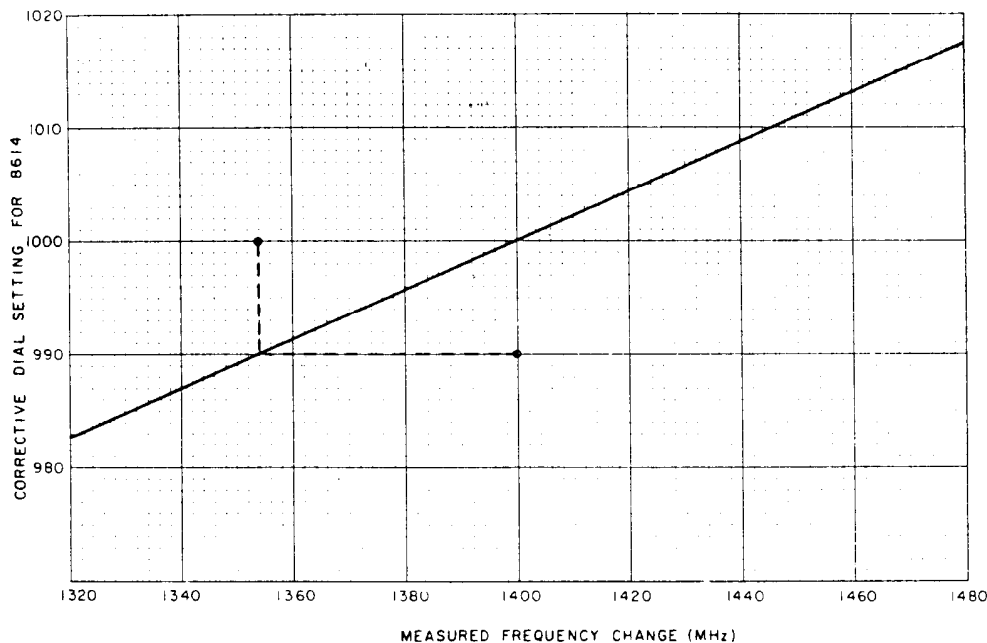
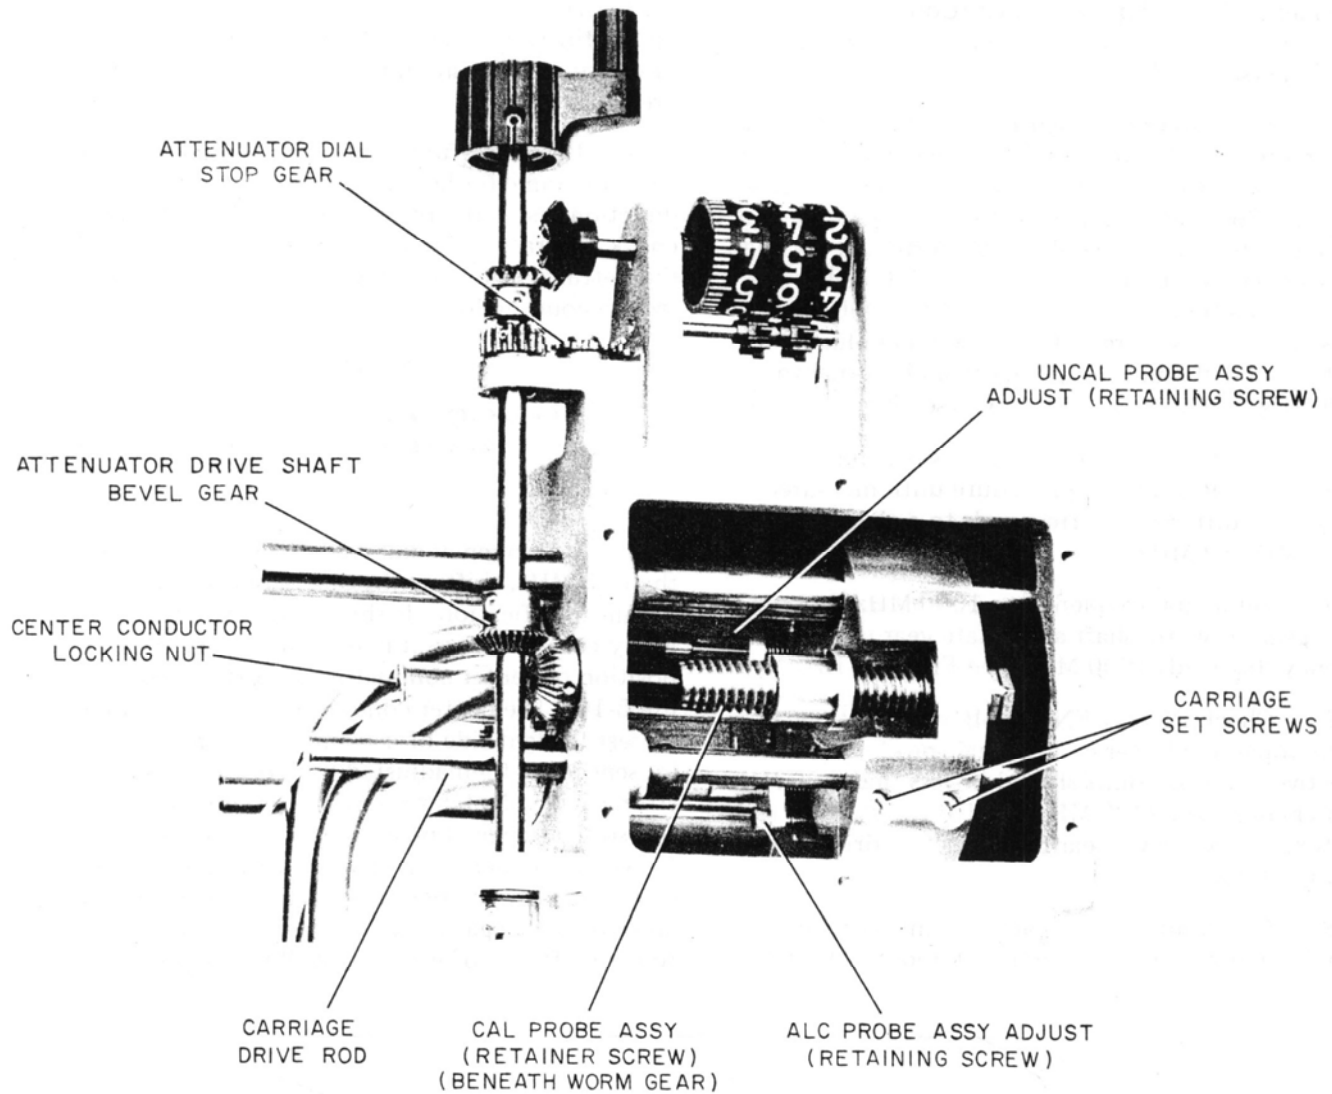

Figure 5-15. Frequency Range Spread Correction Curve
Figure 5-16. Probe Assembly Adjust
c. Refer to graph, Figure 5-15. The horizontal axis represents the measured frequency change from step b, the vertical axis indicates the dial corrective setting. For example, if the difference between dial settings (step b) is 1354 MHz, the corrective setting for the dial as found on the graph is 990 MHz. To make correction, set frequency dial to 1000 MHz, loosen the two setscrews that clamp dial plunger to rack, hold dial plunger stationary, and set dial to 990 MHz. Tighten two setscrews (see Figure 5-16).
i. If frequency dial reading errors are greater than ± 5 MHz, shifting the dial may bring all errors within specification. If shifting dial will not sufficiently correct errors, it may be necessary to shift position of center conductor support rod (see Figure 5-16). The center conductor is notched at end closest to right side of instrument and may be loosened and then adjusted "in" or "out" of klystron cavity. Notch or scratch center conductor rod so that original position may always be known. If overall frequency error was positive, adjust center conductor toward right side of instrument. If overall error was negative, adjust center conductor toward left side of instrument. When adjusting cen-